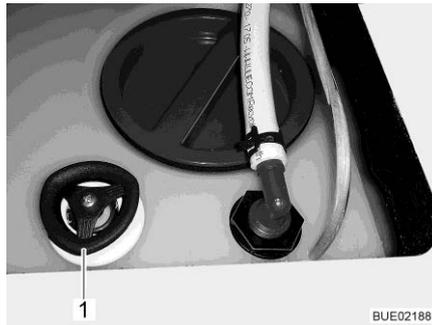

Fig. 170 Water tank with rotary handle
- Turn the rotary handle (Fig. 170,1) on the water tank in an anticlockwise direction as far as possible beyond the resistance to fully open the drainage opening.